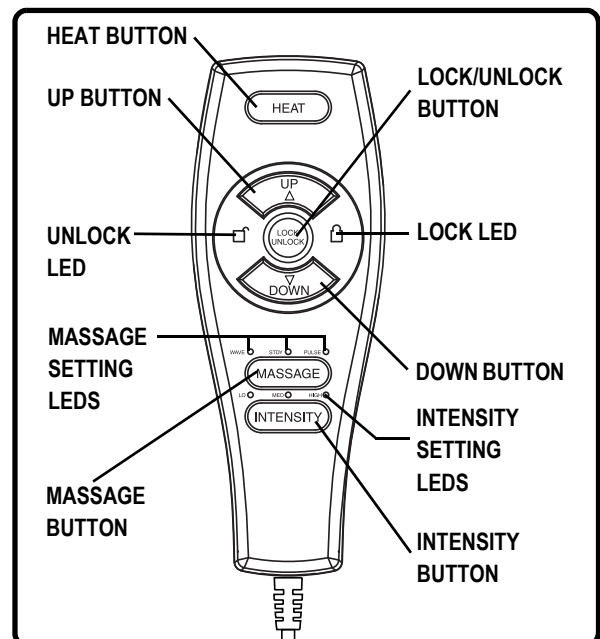

Figure 5.3 Heat and Massage Hand Control
Follow these steps to sit in your lift chair (Fig. 5.3):
Follow these steps to recline your lift chair from the seated position (Fig. 5.3):
Follow these steps to stand up from your lift chair (Fig. 5.3):
Follow these steps to activate/deactivate the lock feature (Fig. 5.3):
**Follow these steps to operate the heat function (Fig. 5.3):**
**Follow these steps to operate the massage option (Fig. 5.3):**
**Follow these steps to adjust the intensity of the massage function (Fig. 5.3):**